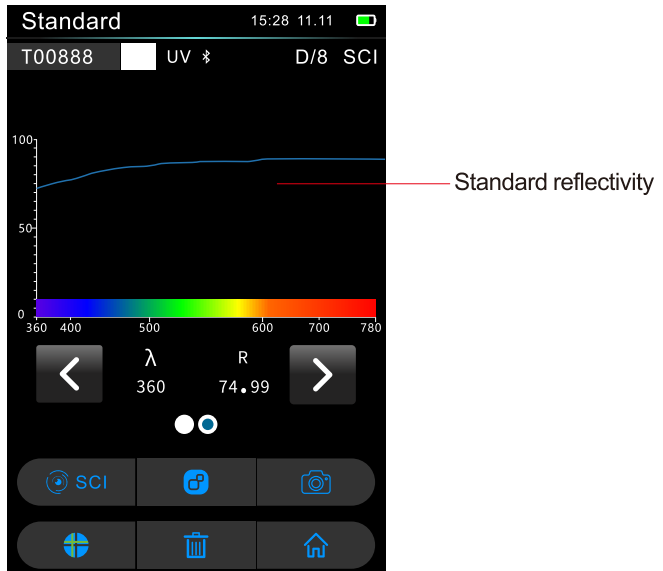

Figure.10 Standard reflectivity
- 10) **Wavelength switch button:** As shown in Figure 10, click ◀️ or ▶️, the wavelength and reflectivity of the current sample will be switch at the interval of 10nm. At this time, the optional chromaticity index is reflectivity. If it is other options, this interface displays other chromaticity index values.